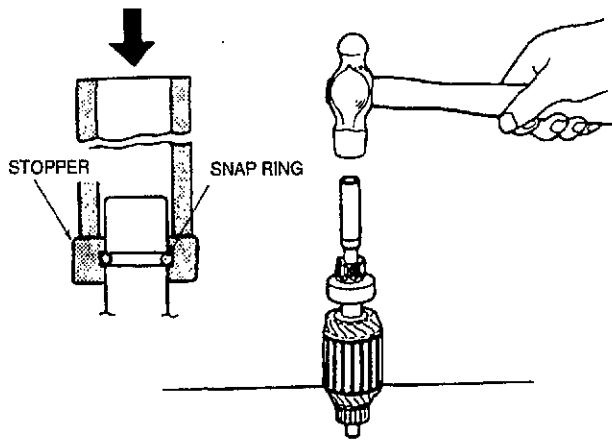

FIGURE 2. REMOVING OVERRUNNING CLUTCH
8. Push stopper toward pinion and remove snap ring (Figure 2).